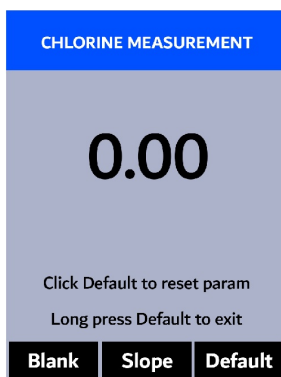

Figure 41.
9. Press **Cal** (**>**) to launch the **CHLORINE CALIBRATION** screen (Figure 41).